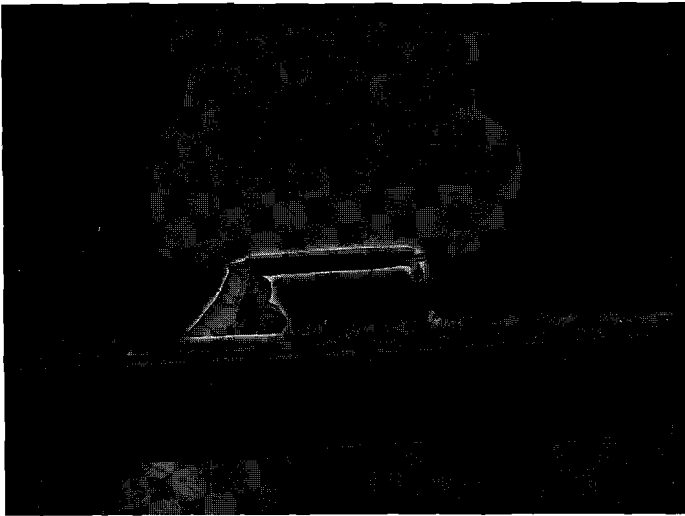

Fig. 39
5. Open burn pot clean-out. Clean fly ash from burn pot and replace cover. See Figures 39 and 40 on page 24.
1. Scrape the top holed surface and sides of the burn pot.(Fig. 39) It is not necessary to completely remove all loose material from the burn pot. The excess will be pushed out during the next use.
2. Loosen the (2) wing thumb screws on the lower front angle of the burn pot. (Fig. 39)